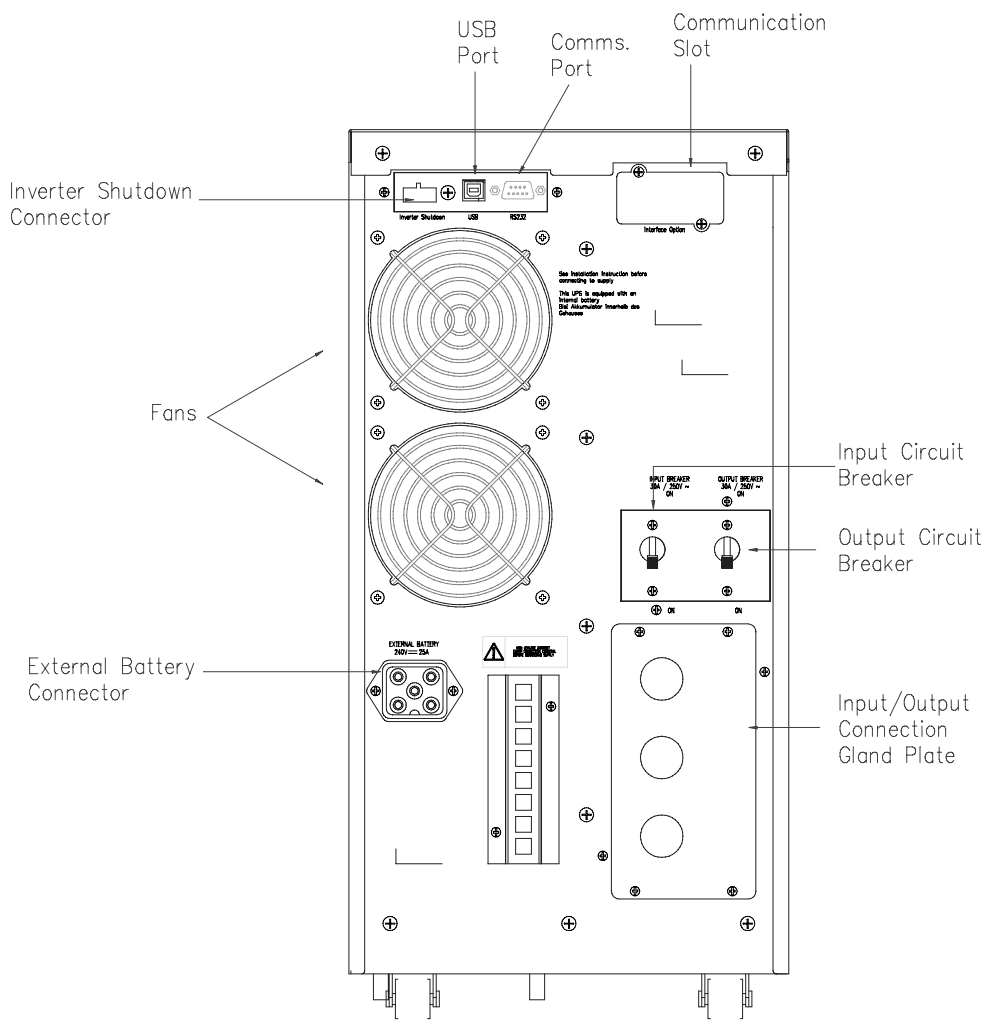

Fig 2. Powerware 9120 6kVA Rear Panel
5. The Inverter Shutdown Input is located at the rear of the UPS. When this connection is open, the Inverter of the UPS will be shutdown. We strongly recommend the use of an External Maintenance Bypass Switch (MBS). If an MBS is used, connect the inverter shutdown cable (refer Fig 2 Page 5) to the input at the rear of the unit, utilising a 1sq. mm. twisted pair screened cable.